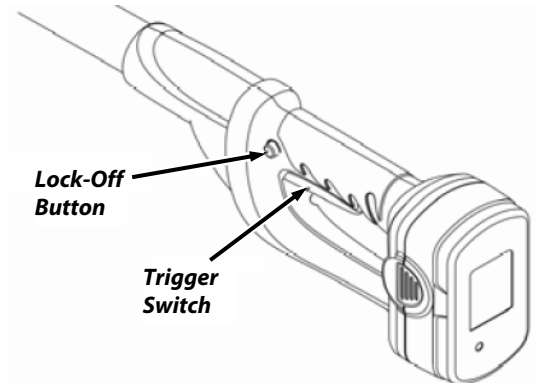

Figure 12
1. Push the Lock-Off Button in with your thumb and then squeeze the Trigger with your fingers (**Figure 12**). Once the tool is running, you can release the lock-off button.